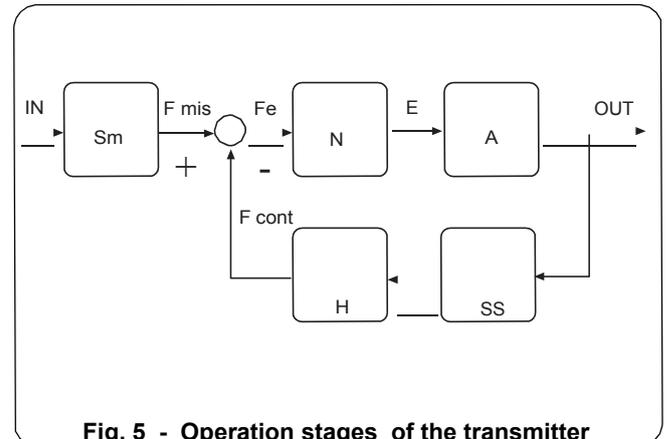

Fig. 5 - Operation stages of the transmitter
As the differential pressure falls so the flapper nozzle gap widens because of imbalance of the forces on the force bar. To increase of the flapper nozzle gap causes the output pressure to fall reducing as it does so the bellows feedback force on the force bar until equilibrium is again achieved. The revised output signal will again be proportional to the reduced differential pressure value. As the flapper movement necessary to vary the output pressure throughout its ranges is only 0.0003 inches (0.0005 mm) the force beam remains in a substantially constant position and thus output varies in proportion to the applied forces and thus the applied differential pressure. The measurement span of the transmitter may be varied by positioning the span rider (C) on the feedback beam. This varies the point at which the feedback force is applied to the force bar and thus the feedback movement of the bellows. As the rider is moved away from the fulcrum point so will the effect of the feedback bellows force increase thus the measurement span increases as the span rider is moved upwards along the feedback beam. The transmitter is designed to give a positive output signal pressure (0.2 Kg/cm2 or 3 lbf/in2 or 20 kPa) for the measured zero: to achieve this the feedback bellows is counter balanced by an adjustable spring and adjustment of this spring (D) by a screw anchor is the means of zeroing the transmitter. The block diagram of fig. 5 shows the operation stages of the transmitter.